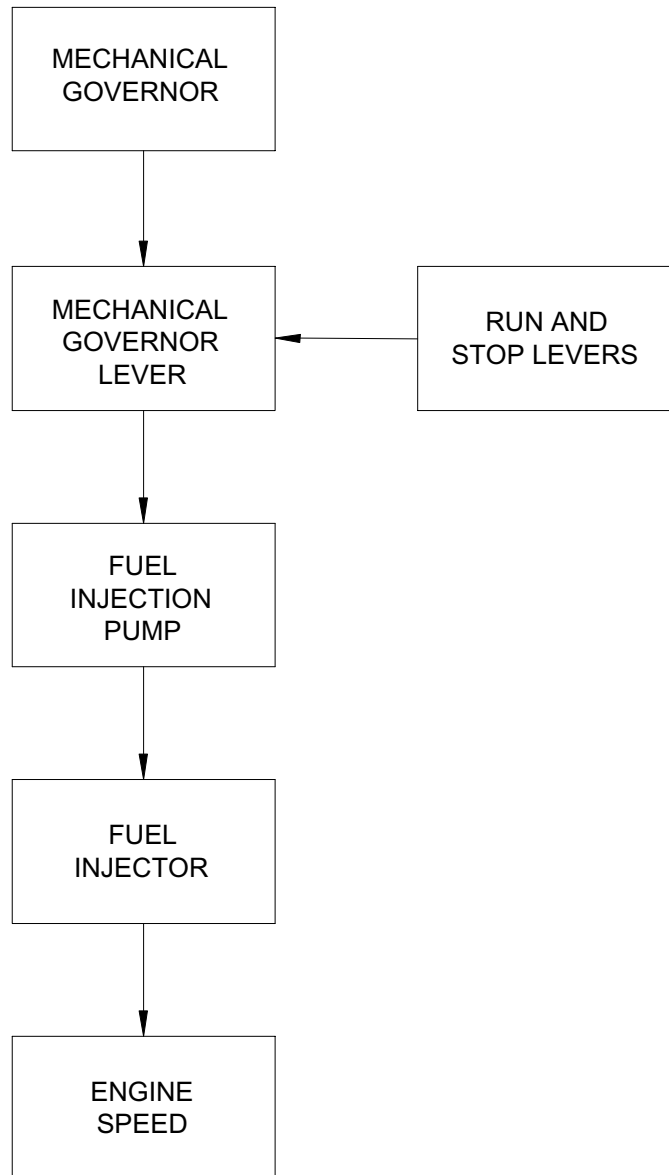

Figure 1-5. Diesel Engine Governor
1.19.1. Diesel engine speed is maintained by the speed control system (Figure 1-5) which includes the mechanical governor, governor lever, RUN lever, and STOP lever. The system is designed to maintain engine speed under load at a constant rate of between 3570 and 3630 rpm (no load speed of 3750 rpm).